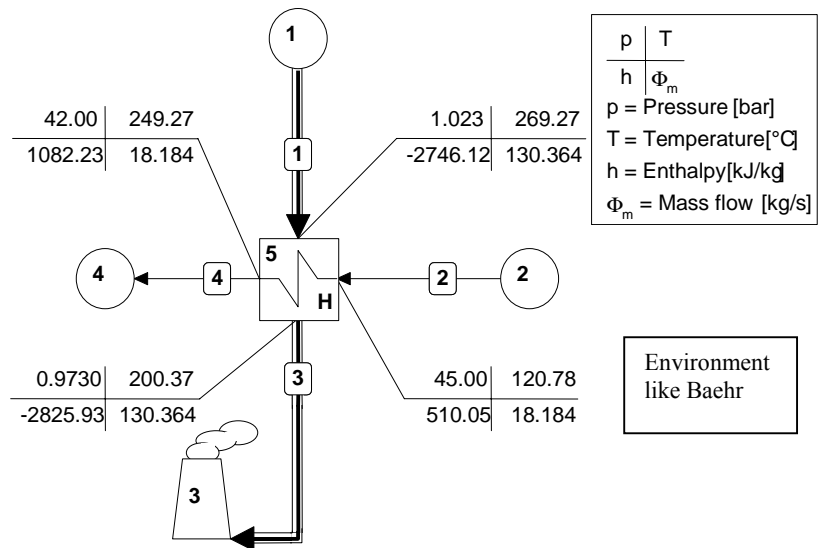

Figure 1: Plot of the system
1. The energy loss with respect to the enthalpy can be calculated by multiplying the enthalpy value and the mass flow, both shown in figure 1 at the flue gas outlet of the heat exchanger.
If a gas mixture, which also contains water vapor, is cooled down below the dew point (see figure 1) condensation of at least a part of the water in the flue gas takes place. Before this condensation can be determined some detailed information of the flue gas must be known. These details are shown in tables 2 and 3. The molar mass and the mole fractions which contains in the flue gas are taken from Cycle-Tempo. With this information the mass fractions are calculated manually and put in the same table. In table 3 the part of interest of the data for all pipes of Cycle-Tempo is shown.